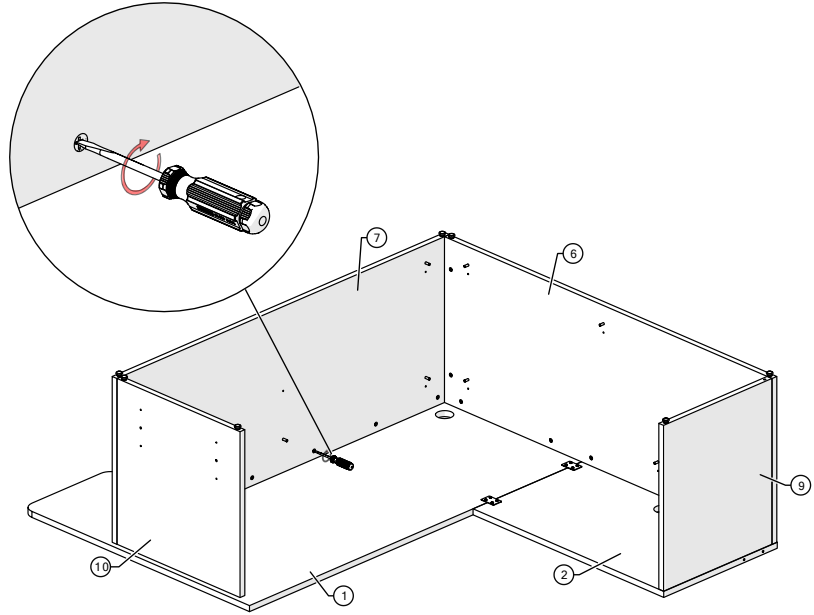

Figure 13
14. Turn the Cams using a screwdriver in a clockwise direction to smoothly lock the assembled unit, and worksurfaces together (Figure 13).